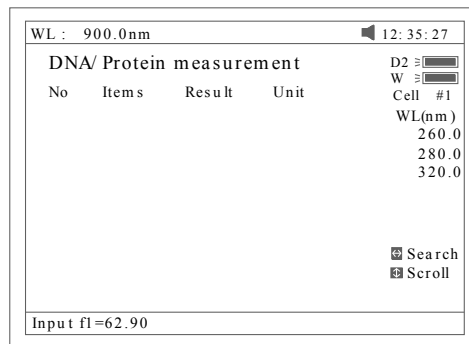

Fig 61
1. To use a simpler or different algorithm, you can enter your own values for f1-f4. Press [**F1**] to set f1-f4. Input the value by pressing the numeric keypad (Fig 61).